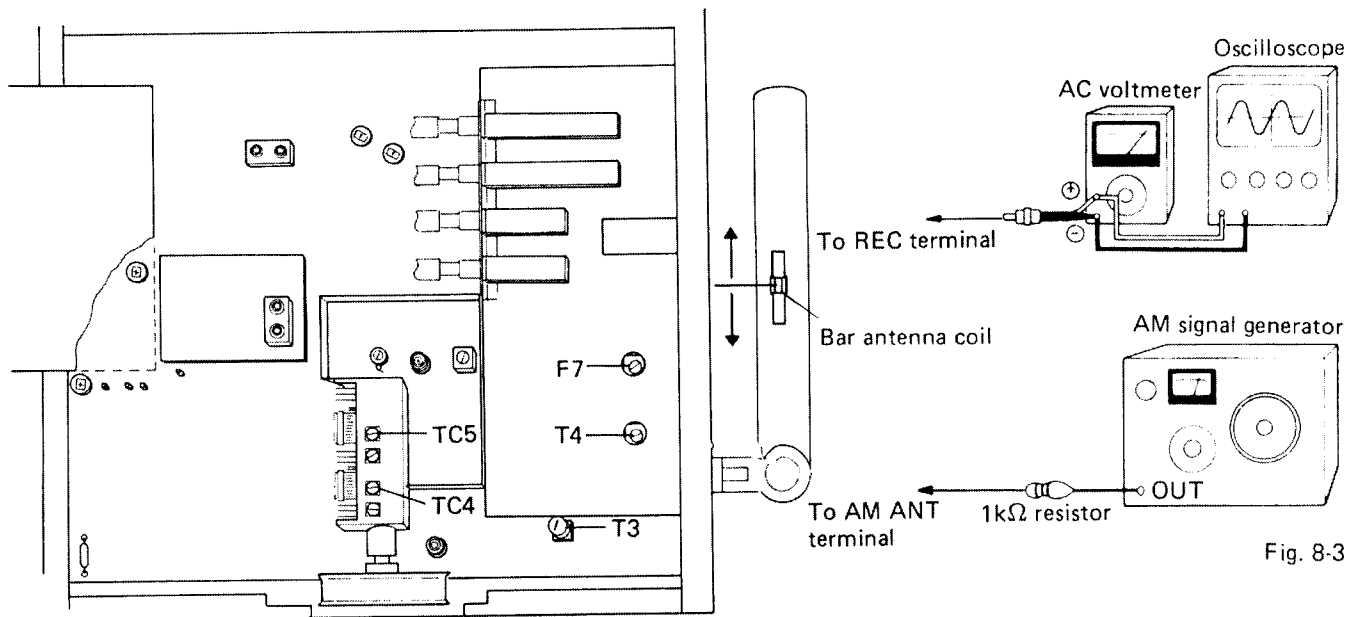

Fig. 8-3
1. Set up the test equipment as Fig. 8-3.